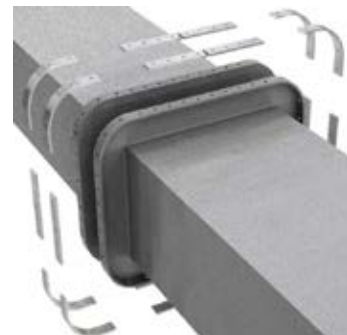

Fig. 1
- Organise the clamp bars to ensure correct match to duct flange. (See: Fig. 1)